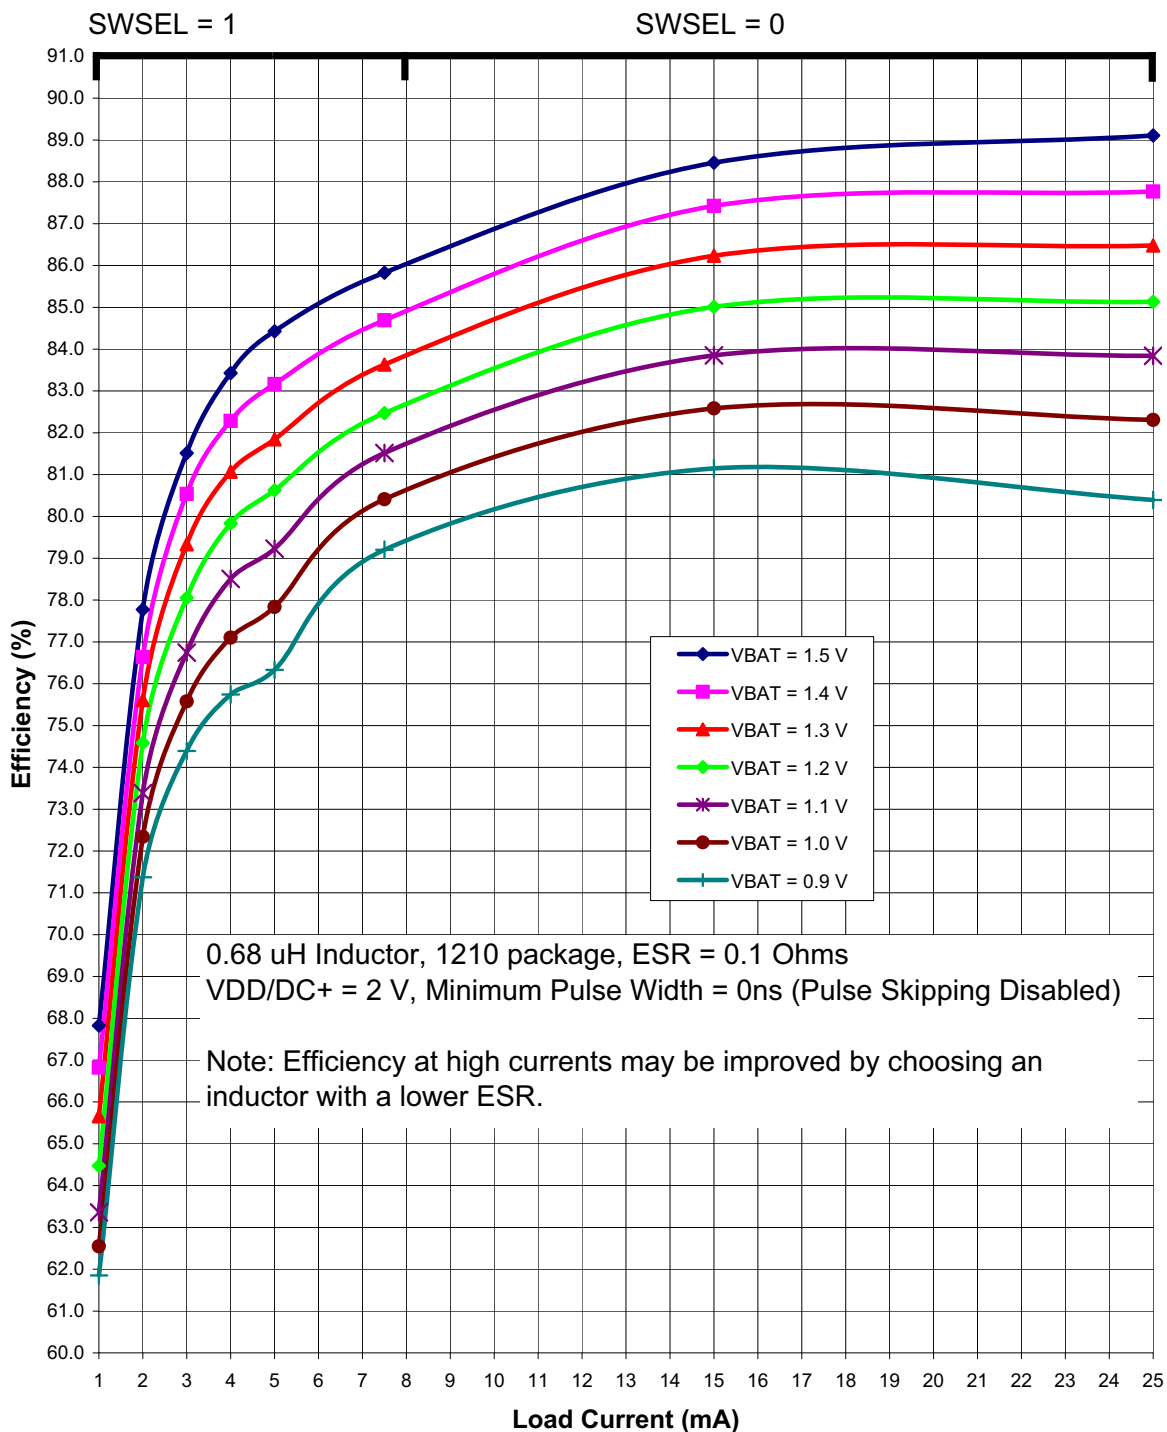
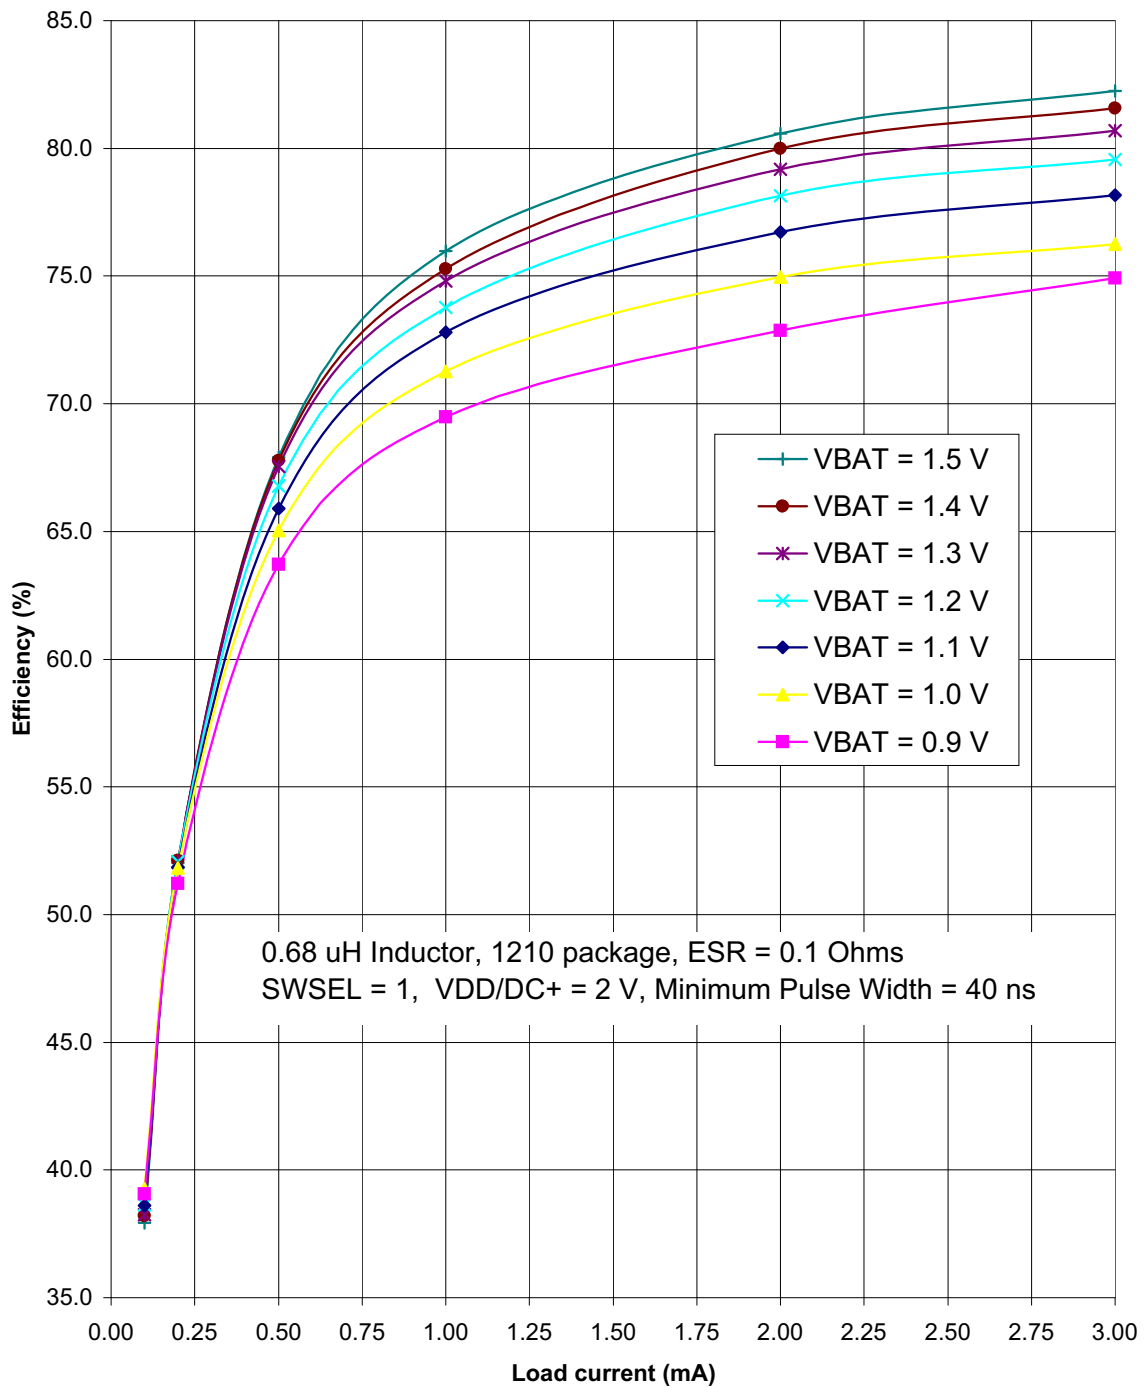

Figure 4.3. Typical DC-DC Converter Efficiency (High Current, VDD/DC+ = 2 V)
Figure 4.5. Typical DC-DC Converter Efficiency (Low Current, VDD/DC+ = 2 V)
The DC-DC Converter Efficiency can be estimated using Figure 4.3–Figure 4.5.
<ol style="list-style-type: none"> Based on device characterization data; Not production tested. SYSClk must be at least 32 kHz to enable debugging. Digital Supply Current depends upon the particular code being executed. The values in this table are obtained with the CPU executing an "sjmp \$" loop, which is the compiled form of a while(1) loop in C. One iteration requires 3 CPU clock cycles, and the Flash memory is read on each cycle. The supply current will vary slightly based on the physical location of the sjmp instruction and the number of Flash address lines that toggle as a result. In the worst case, current can increase by up to 30% if the sjmp loop straddles a 64-byte Flash address boundary (e.g., 0x007F to 0x0080). Real-world code with larger loops and longer linear sequences will have few transitions across the 64-byte address boundaries. Includes oscillator and regulator supply current. IDD can be estimated for frequencies ≤14 MHz by simply multiplying the frequency of interest by the frequency sensitivity number for that range, then adding an offset of 90 μA. When using these numbers to estimate I_{DD} for >14 MHz, the estimate should be the current at 25 MHz minus the difference in current indicated by the frequency sensitivity number. For example: V_{DD} = 3.0 V; F = 20 MHz, I_{DD} = 4 mA – (25 MHz – 20 MHz) x 0.102 mA/MHz = 3.5 mA assuming the same oscillator setting. The supply current specifications in Table 4.2 are for two cell mode. The VBAT current in one-cell mode can be estimated using the following equation: $\text{VBAT Current (one-cell mode)} = \frac{\text{Supply Voltage} \times \text{Supply Current (two-cell mode)}}{\text{DC-DC Converter Efficiency} \times \text{VBAT Voltage}}$ <p>The VBAT Voltage is the voltage at the VBAT pin, typically 0.9 to 1.8 V. The Supply Current (two-cell mode) is the data sheet specification for supply current. The Supply Voltage is the voltage at the VDD/DC+ pin, typically 1.8 to 3.3 V (default = 1.9 V). The DC-DC Converter Efficiency can be estimated using Figure 4.3–Figure 4.5.</p> Idle IDD can be estimated by taking the current at 25 MHz minus the difference in current indicated by the frequency sensitivity number. For example: V_{DD} = 3.0 V; F = 5 MHz, Idle I_{DD} = 2.1 mA – (25 MHz – 5 MHz) x 0.079 mA/MHz = 0.52 mA. Internal LFO only available on 'F912 and 'F902 devices. Ability to disable VBAT supply monitor only available on 'F912 and 'F902 devices.